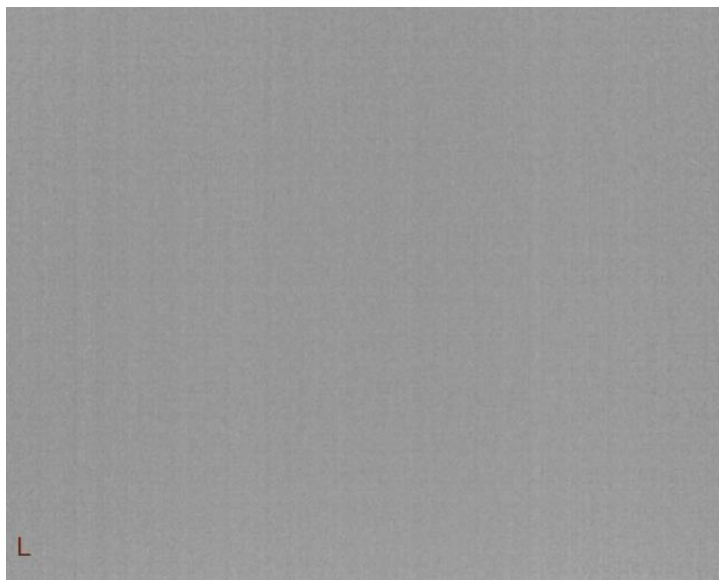

Figure 38: “Low-Gain” Symbol (Factory-Default); lower left corner
- **Low-Gain State:** By factory default, the symbol shown in Figure 38 is displayed whenever the camera is operating in low-gain state. (See Section 6.5 for a full description of this state.)